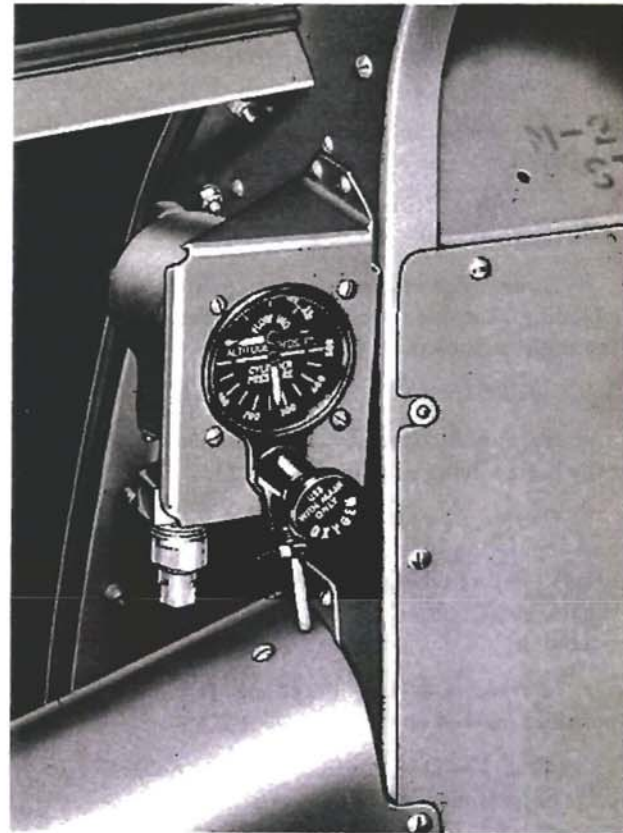

Figure 34—Bombardier's Oxygen Regulator
(2) Check pyrotechnic pistol.
(3) Check signals in container.
(4) Check flares.
(5) Check oxygen mask fitting on regulator (Figure 34).